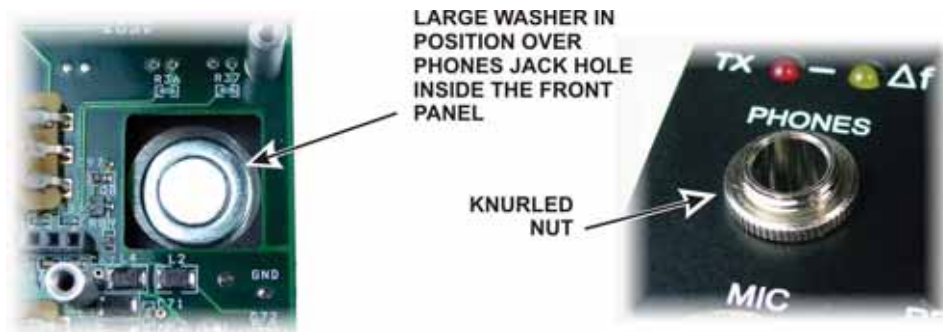

Figure 59. Phones Jack Hardware.
Position the large flat washer on the inside of the front panel over the PHONES jack hole (see Figure 59 on page 41). This is easily done by sliding the washer into place from the end of the front panel.
- Screw the knurled nut onto the threaded shaft of the PHONES jack where it exits the front panel (see Figure 59). Screw it only finger tight. Do not use pliers.